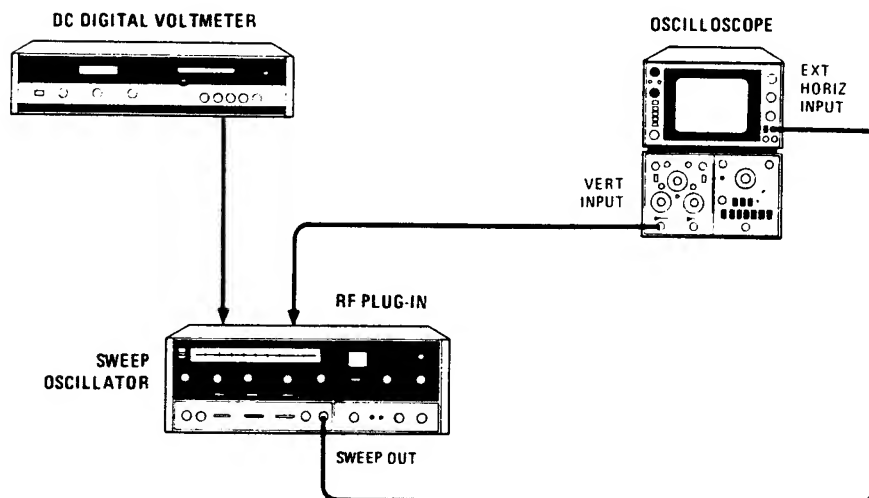

Figure 5-1. Adjustment Test Setup
DESCRIPTION: The A4 and A5 Regulator Assemblies are adjusted to provide the proper dc voltages for the 8620C Sweep Oscillator and RF units connected in the mainframe. (See Figure 5-1 for test setup.)
DESCRIPTION:   Fan Speed and ON/OFF ratio are adjusted for maximum efficiency (see Figure 5-1 for test setup).
DESCRIPTION: 1 kHz Oscillator is adjusted for proper operating frequency (see Figure 5-1 for test setup).
DESCRIPTION: Set correct sweep time, sweep return time, symmetry, and range of RF Blanking signal (see Figure 5-1 for test setup).
- a. Connect equipment as shown in Figure 5-1.